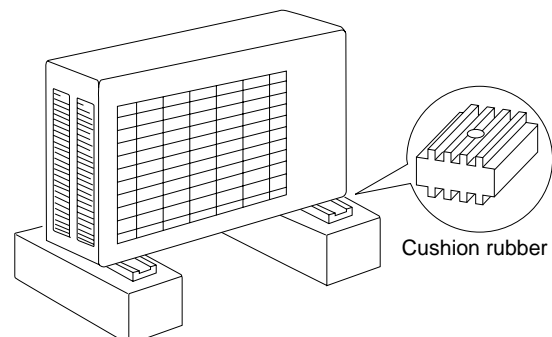

Fig. 4b
- install cushion rubber (not provided) under unit's feet to reduce vibration and noise. (Fig. 4b)